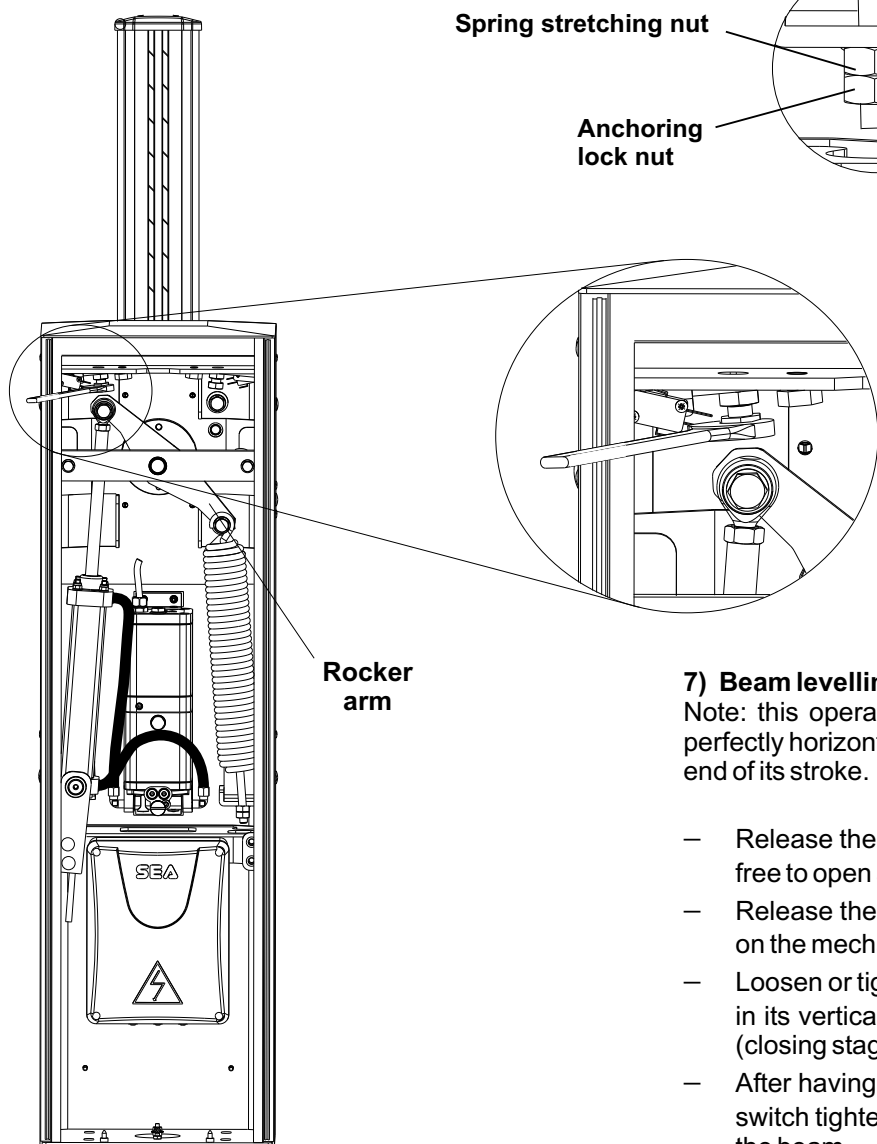

Fig.10
- Release the screws of the limit switch on unscrewing the nuts on the mechanical stops (fig.10).
- Loosen or tighten the stop screws so that the beam is released in its vertical position (opening stage) and horizontal position (closing stage) (Fig. 10).